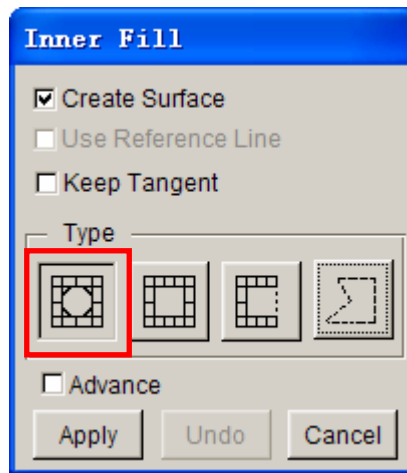

Figure 21 Inner Fill dialog box
5. Select **INNER FILL** function in the dialog box to display the **Inner Fill** dialog box illustrated in Figure 21.